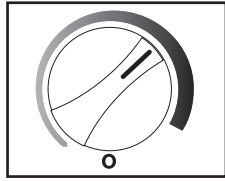

Fig. 15
- When maximum cooling is achieved, turn back the temperature control knob setting to the 2 o'clock position on the graduated blue control dial. See Fig.15.